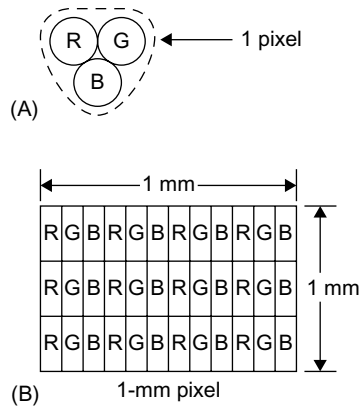

FIGURE 11.13 How color pixels are formed on a TV screen. (A) Pixel format for most CRTs. (B) Pixel format typical of LCD, plasma, or LED screens.
Figure 11.13 shows some of the screen pixel formats in use today. Cathode ray tubes were made up of a group of three color phosphor as shown in Figure 11.13A. These color triads were grouped tightly together to form the complete screen. When an electron beam strikes each of the red (R), blue (B), and green (G) pixels, they cause the phosphor dots to glow. The eye automatically mixes the individual red, blue, and green colors to reproduce the desired color.